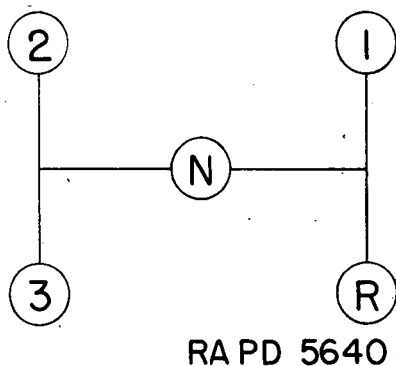
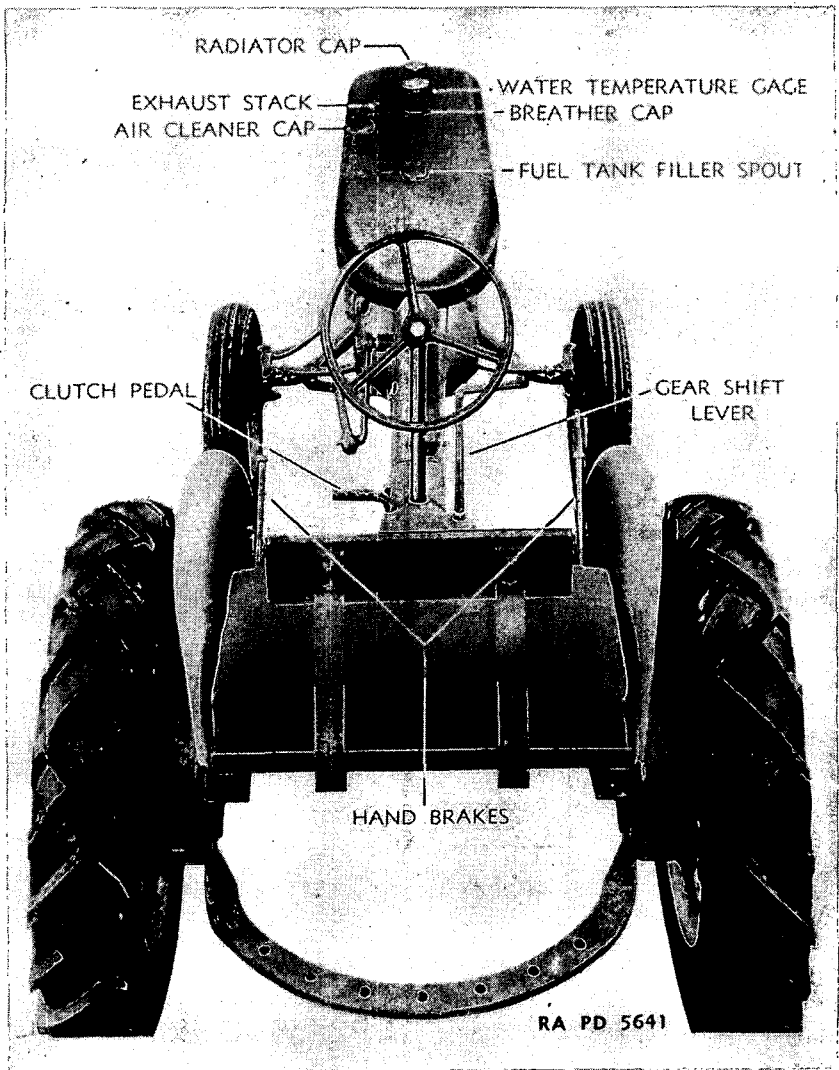

FIGURE 3.—Gear shift diagram.
FIGURE 4.—Rear view.
c. Brakes.—Independent brakes are provided for each of the rear wheels. Each brake is operated by its control lever located over the rear wheel at either side of the driver (fig. 4). The brakes are applied as the lever is pulled back. A catch is provided to maintain brakes in full applied position. Sharp turns may be made by applying the hand brake on the side toward which the turn is to be made and turning the steering wheel in the usual direction. This will allow the tractor to pivot about the rear wheel on which the brake is applied.
d. Gear shift lever.—A gear shift lever is mounted on the transmission case in front of the driver (fig. 4). It provides three forward speeds for the tractor and one reverse speed. The gear shift positions as indicated in figure 3 are as follows:
e. Clutch.—A clutch pedal is provided on the left side of the tractor (fig. 4) convenient to the operator's left foot. The clutch pedal is depressed each time it is desired to shift gears and the lever placed in the proper gear position, after which the clutch pedal is released slowly to avoid a sudden jerk at starting and the throttle is opened far enough to avoid stalling the engine. A latch is provided which may be used to hold the clutch in depressed position.